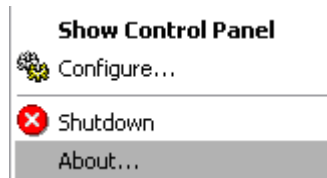

Figure 2 - Tool Tray Menu
2. The **Tool Tray Menu** appears (Figure 2).